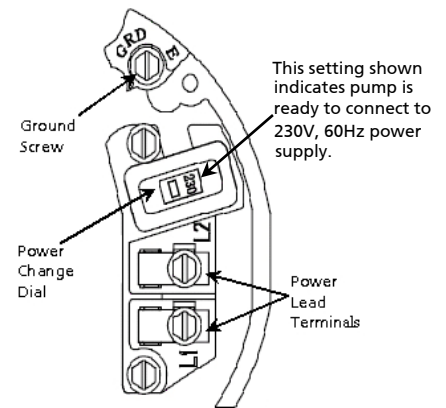
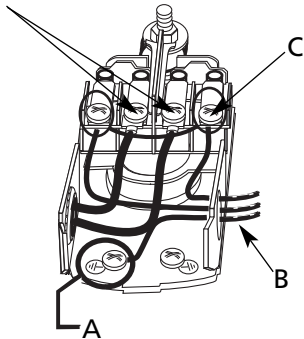

Figure 10–Voltage Set to 230 Volts, Dial Type
Figure 11 – Voltage Set to 230 Volts, Dial Type
Your motor terminal board (located under the motor end cover) should look like the one in Figure 10.
2. Select the UP knob position for 115V or DOWN position for 230V, until 115 or 230 shown in the dial window (see Figure 10).
(see Figure 11)
When replacing motor, check wiring diagram on motor nameplate against diagram, see Figure 10 on page 11. If they are not the same follow the diagram on the motor, see Figure 11.
1. Connect the ground wire first as shown in Figure 10 on page 11. The ground wire must be a solid copper wire at least as large as the power supply wires.
4. Connect the power supply wires to the pressure switch as shown in Figure 11.